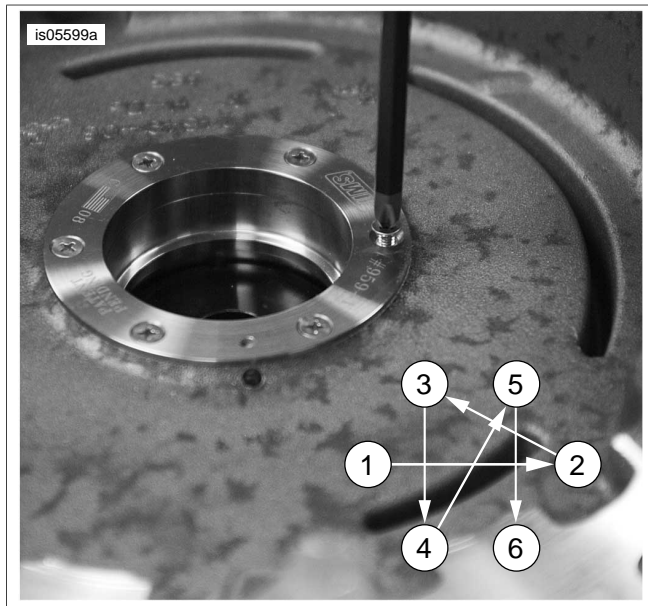

Figure 11. Screw Torque Sequence
23. See Figure 11. Using a torque wrench and a TORX T-15 driver, torque each screw in a crisscross pattern to 25-30 **in-lbs** (2.8-3.4 Nm).